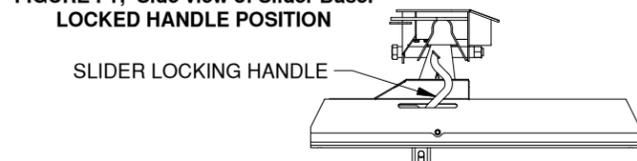

FIGURE F2; Side view of Slider Base. UN-LOCKED HANDLE POSITION
2. Pull the handle towards the rear of the truck to move it to the unlocked position, shown in figure F2.
6. Pull the handle towards the rear of the truck to move it to the unlocked position, shown in Figure F2.